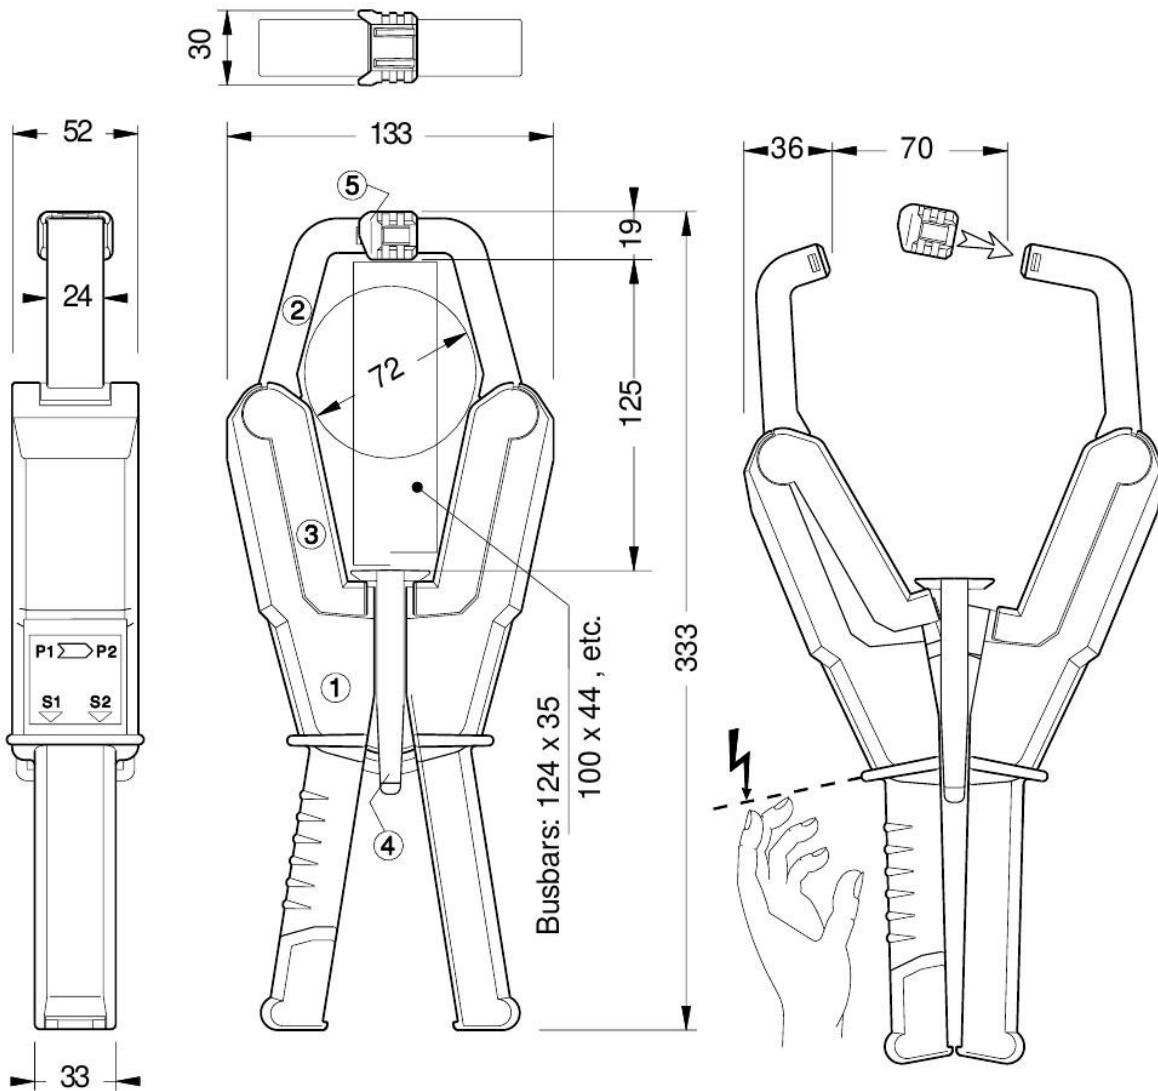

Figure 2.61: Dimensions in mm and protection against electric shock and short-circuit
- Use safety cover 'P' Figure 2.61 [→77] for protection against short-circuits during clamping!